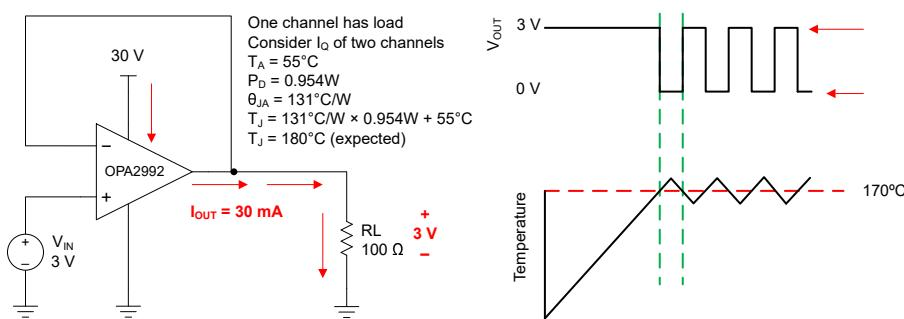

Figure 7-4. Thermal Protection
The internal power dissipation of any amplifier causes its internal (junction) temperature to rise. This phenomenon is called *self heating*. The absolute maximum junction temperature of the OPAx992 is 150°C. Exceeding this temperature causes damage to the device. The OPAx992 has a thermal protection feature that reduces damage from self heating. The protection works by monitoring the temperature of the device and turning off the op amp output drive for temperatures above 170°C. Figure 7-4 shows an application example for the OPA2992 that has significant self heating because of its power dissipation (0.954 W). In this example, both channels have a quiescent power dissipation while one of the channels has a significant load. Thermal calculations indicate that for an ambient temperature of 55°C, the device junction temperature reaches 180°C. The actual device, however, turns off the output drive to recover towards a safe junction temperature. Figure 7-4 shows how the circuit behaves during thermal protection. During normal operation, the device acts as a buffer so the output is 3 V. When self heating causes the device junction temperature to increase above the internal limit, the thermal protection forces the output to a high-impedance state and the output is pulled to ground through resistor R_L . If the condition that caused excessive power dissipation is not removed, the amplifier will oscillate between a shutdown and enabled state until the output fault is corrected. Please note that thermal performance can vary greatly depending on the package selected and the PCB layout design. This example uses the thermal performance of the SOIC (8) package.